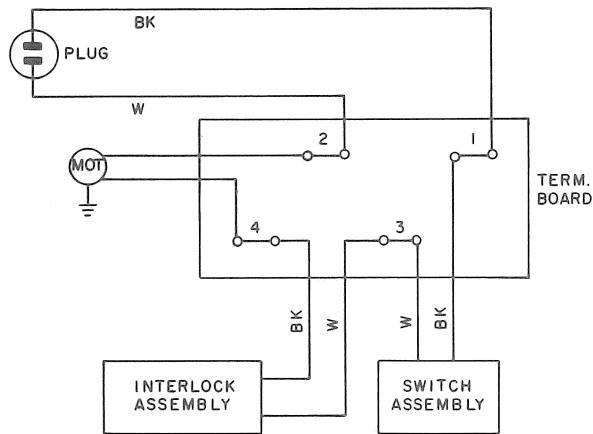

Fig. 30—KS-16797, List 9 (MD) Blower Assembly, Connections
- (b) Connect ohmmeter to terminal 1 and 2 of terminal board (Fig. 30).
- (5) Operate BLOWER switch to ON position.
- (6) Check blower switch assembly as follows:
- (a) Connect ohmmeter to terminals 1 and 3 of terminal board (Fig. 30).
Inspect the blower switch and interlock switch assemblies. If their condition is good, connect their leads to terminal board per Fig. 30; if their condition is questionable, replace as directed in 4.30 or 4.31.
- (1) Tie a wire or string to the switch assembly leads at the end disconnected from the terminal board.
- (2) Remove and retain two No. 8-32 by 5/8 RH self-tapping screws which secure switch assembly to corner post.
- (3) Pull switch assembly until leads are removed from wire channel and wire or string is exposed.
- (4) Untie wire or string from leads of old switch and tie to leads of new switch.
- (5) Pull wire or string and feed switch leads through wire channel to terminal board. Untie wire or string.
- (6) Mount switch in position on post and secure it with the two screws retained in (2).
- (7) Connect leads to terminal board per Fig. 30.
- (1) Tie a wire or string to the switch assembly leads at the end disconnected from terminal board.
- (2) Remove and retain two No. 6-32 by 1-1/16 BHM screws, two No. 6 lockwashers, and two No. 6-32 hex nuts which secure switch assembly to track assembly.
- (3) Repeat 4.30 (4) and (5).
- (4) Mount switch in position on the upper surface of the track assembly with its operating bracket extending through the track.
- (5) Secure switch to track assembly using hardware retained in (2); lockwashers and hex nuts shall be on top side of track.
- (6) Connect leads to terminal board per Fig. 30.